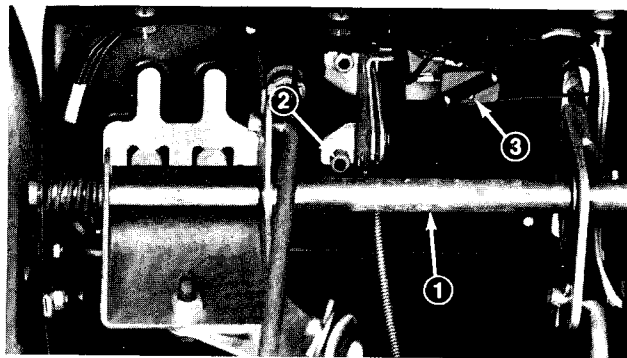

Figure 3
2. From back side, slide throttle control lever in front of pivot rod and through slot in control panel. Next, secure throttle control plate in place with two hex head sems screws and locknuts (Fig. 3).